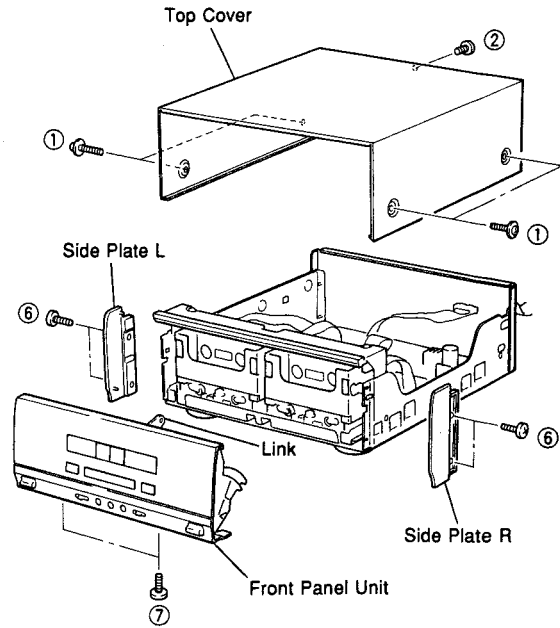

Fig. 1
Remove 4 screws (①) and 1 screw (②) in Fig. 1.
- Remove 4 screws (⑥) and then remove the Side Plate in Fig. 1.
- Remove 2 screws (⑦) and then remove the Front Panel Unit in Fig. 1.